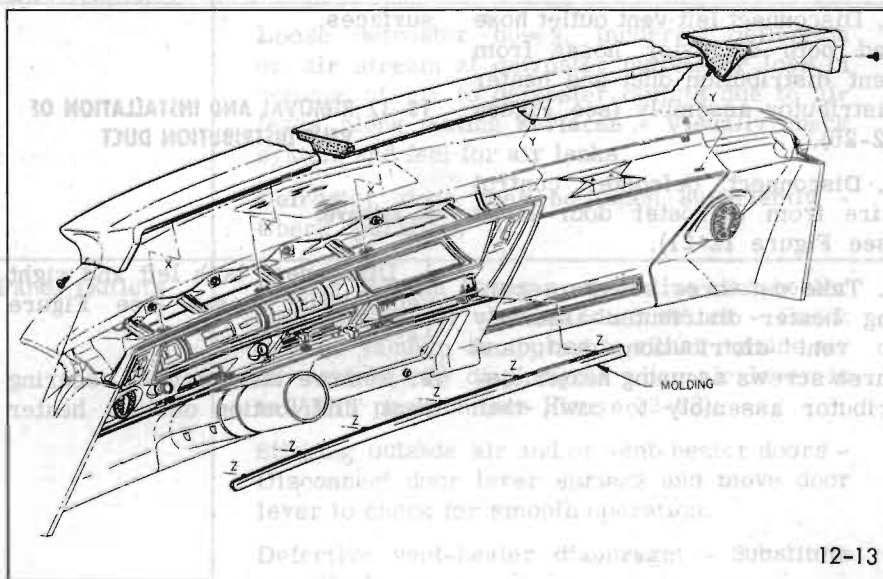

Figure 12-25—Instrument Panel Assembly
1. Pry off thin strip of trim along center bottom of instrument panel (see Figure 12-25).